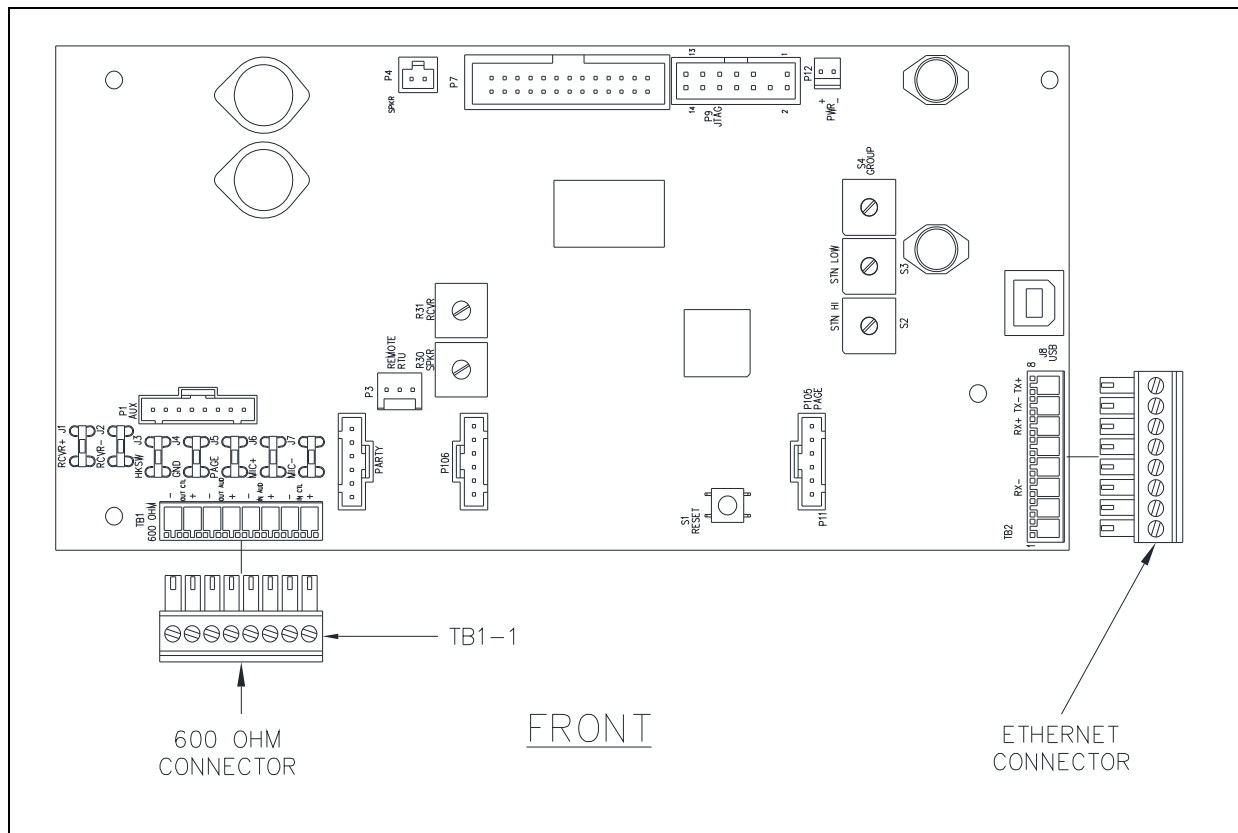

Figure 9. SP2 Main PCBA (Ethernet)
3. Connect the 600-ohm audio wires to the pluggable terminal block for the 600-ohm audio I/O connection (see Table 8 and Figure 9).
3. Connect the Ethernet cable to the 8-position pluggable terminal block (see Figure 9).
4. Connect the pluggable terminal block to terminal block TB2 (see Figure 9).